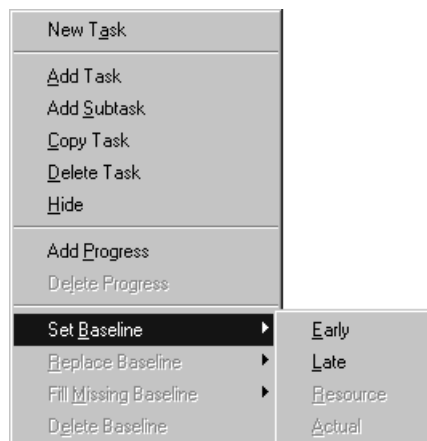

Figure 6.23. Set Baseline Pull-down Menu
- If the project data do not include a Baseline schedule, it can be set in the PM Window by selecting “Set Baseline” from the “Edit” pull-down menu (see Example 6.3). This selection can be used to set the Baseline schedule to one of the current schedules (see Figure 6.23). Thus, selecting “Resource” from the pull-down menu sets the baseline schedule to the current resource-constrained schedule. By saving the current resource-constrained schedule, you can perform some what-if analysis by changing some of the resource requirements or other parameters of the project and comparing the resulting schedule with the saved baseline schedule.